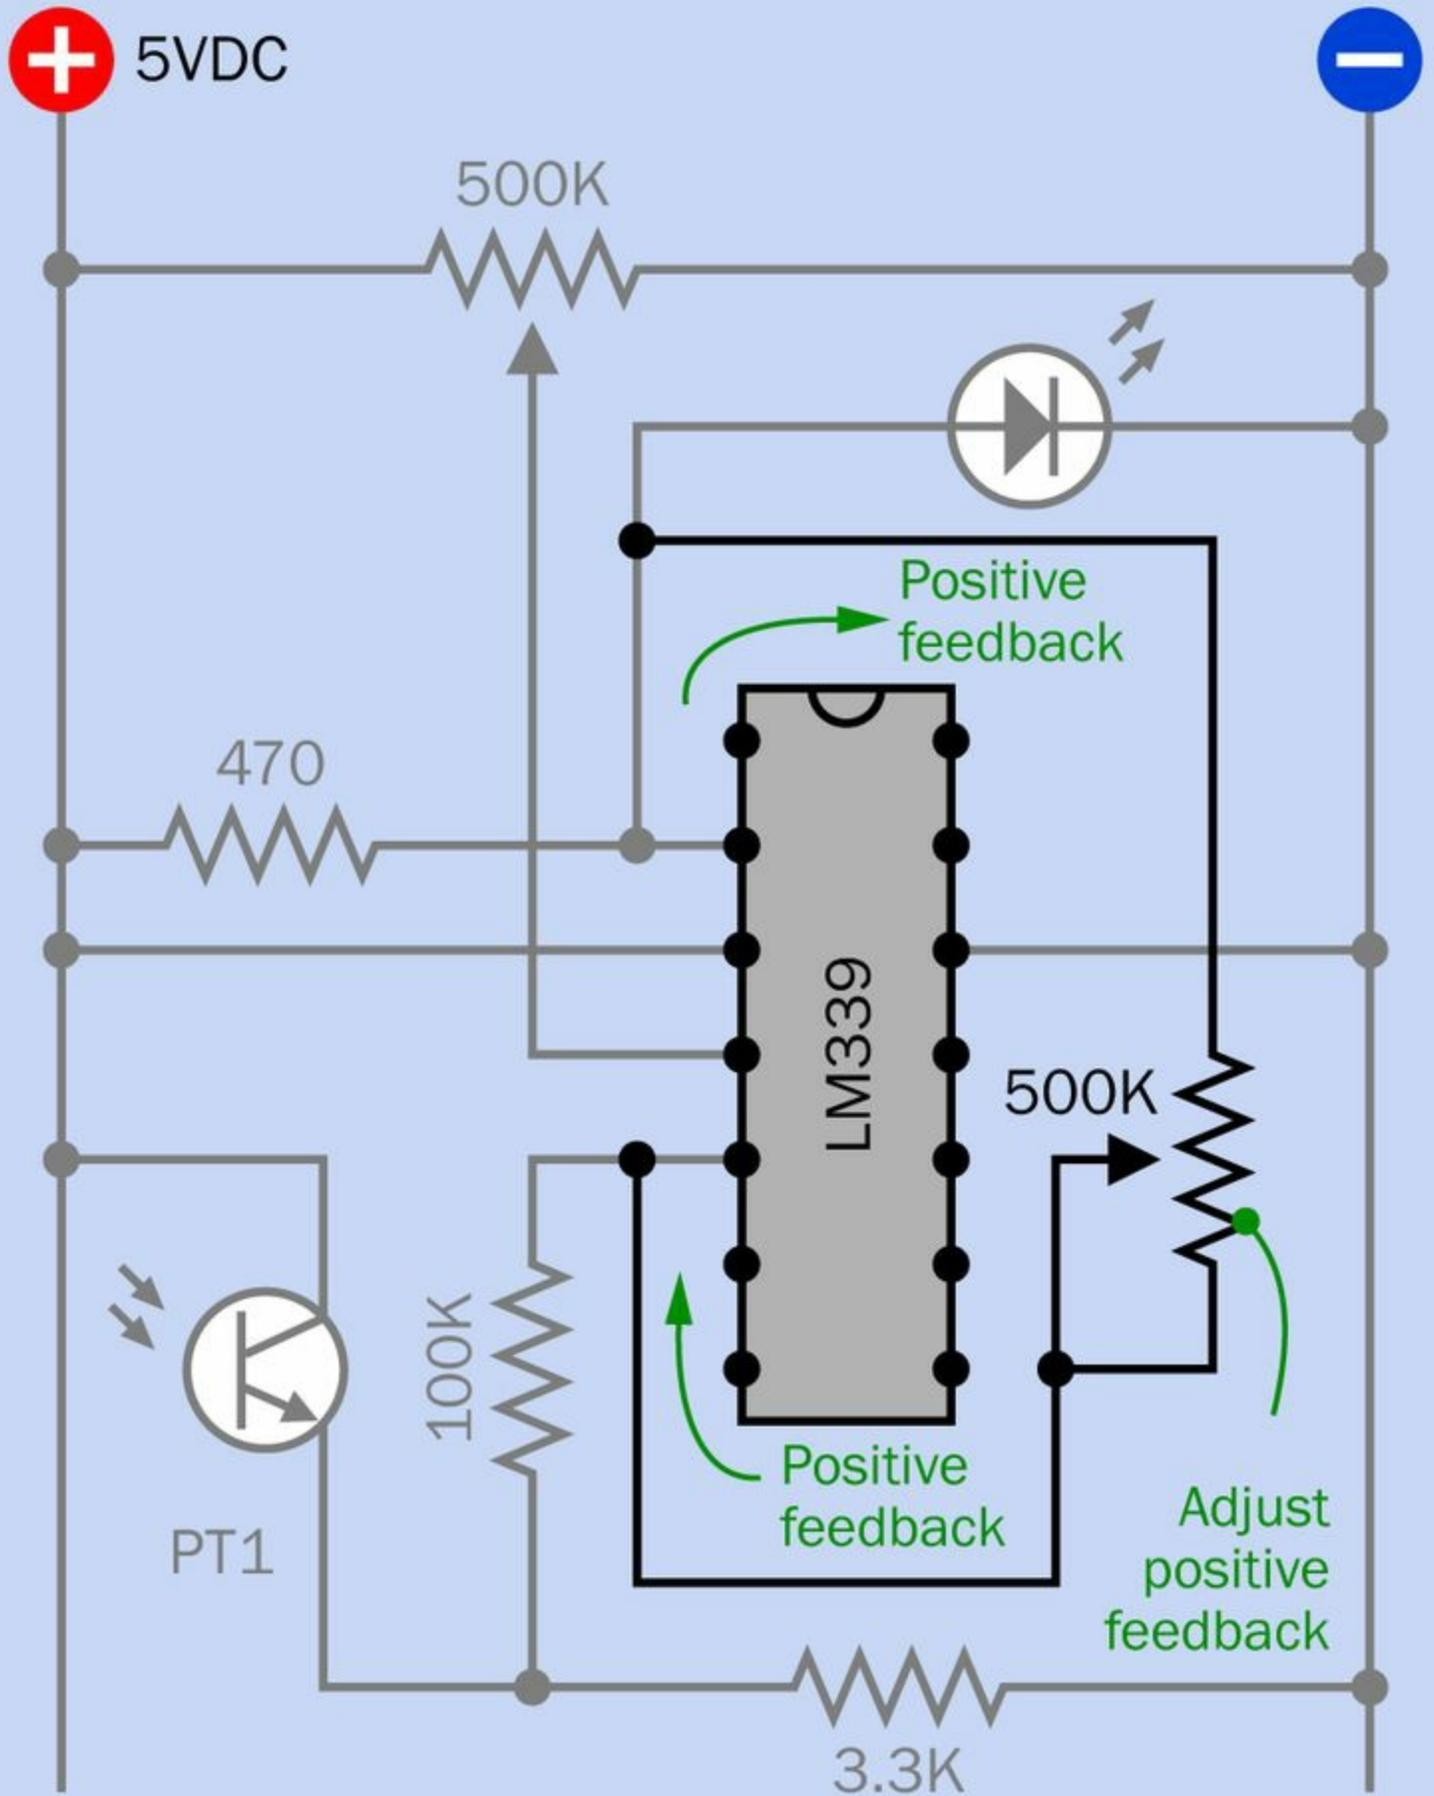
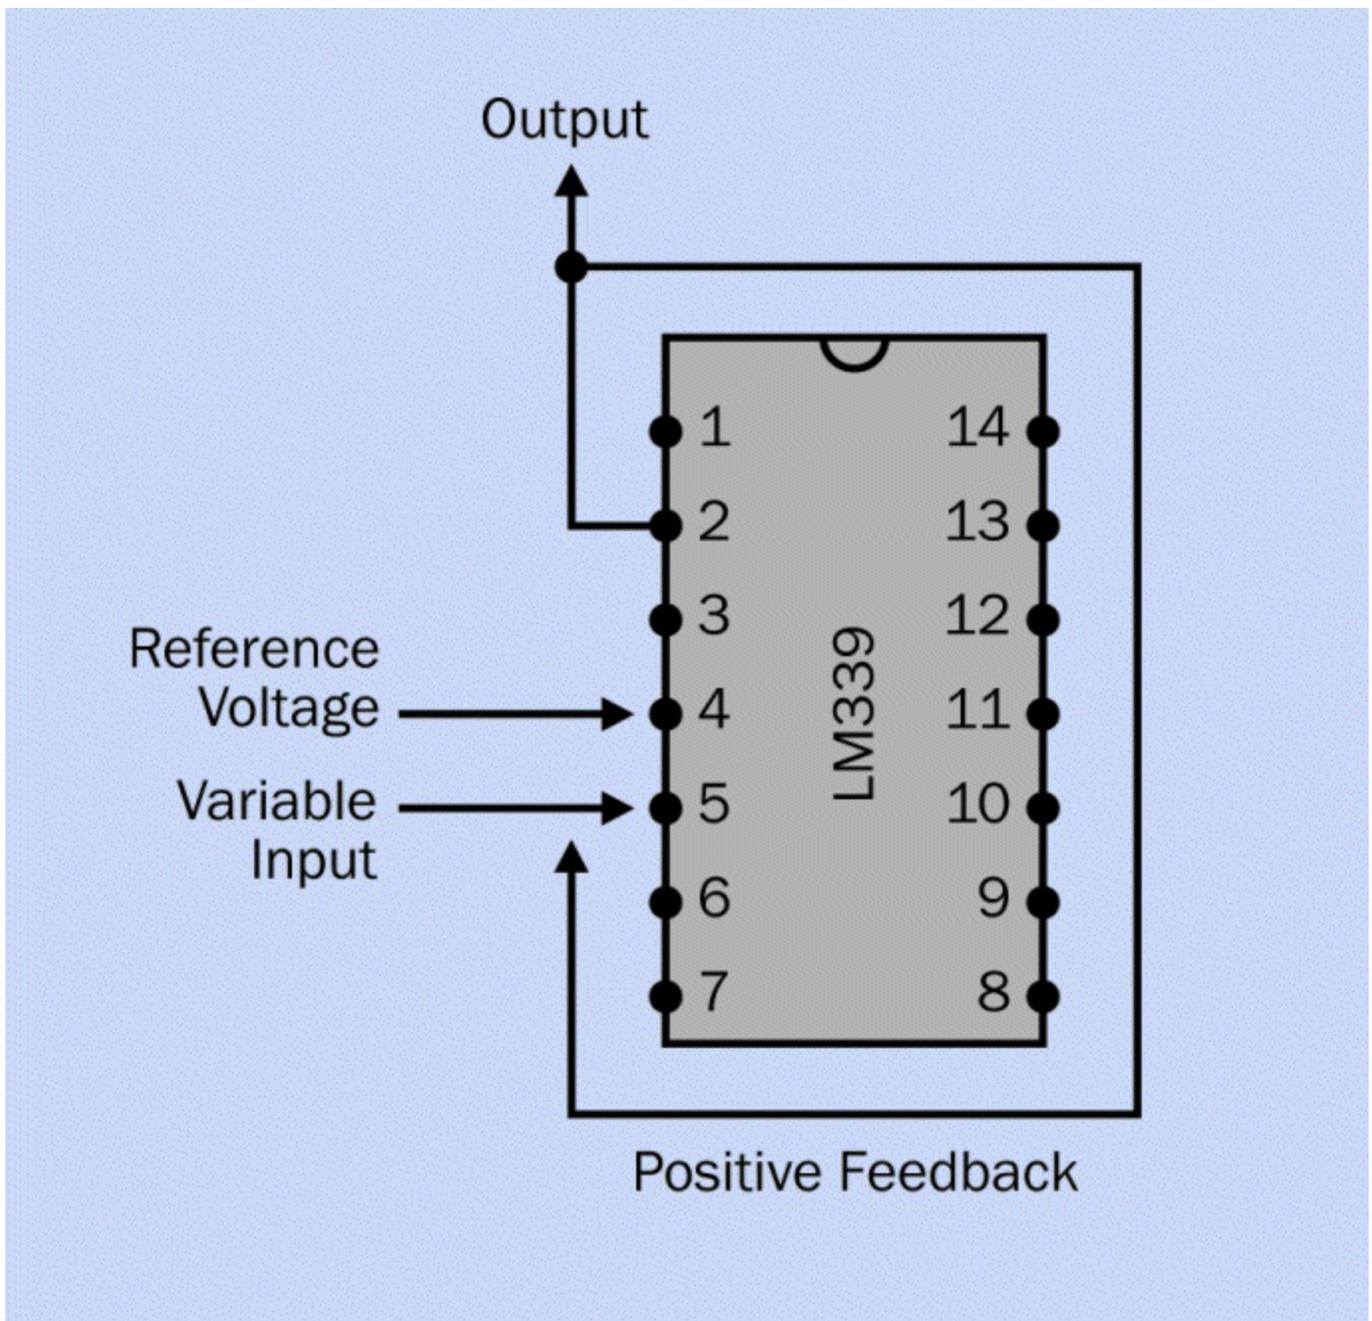
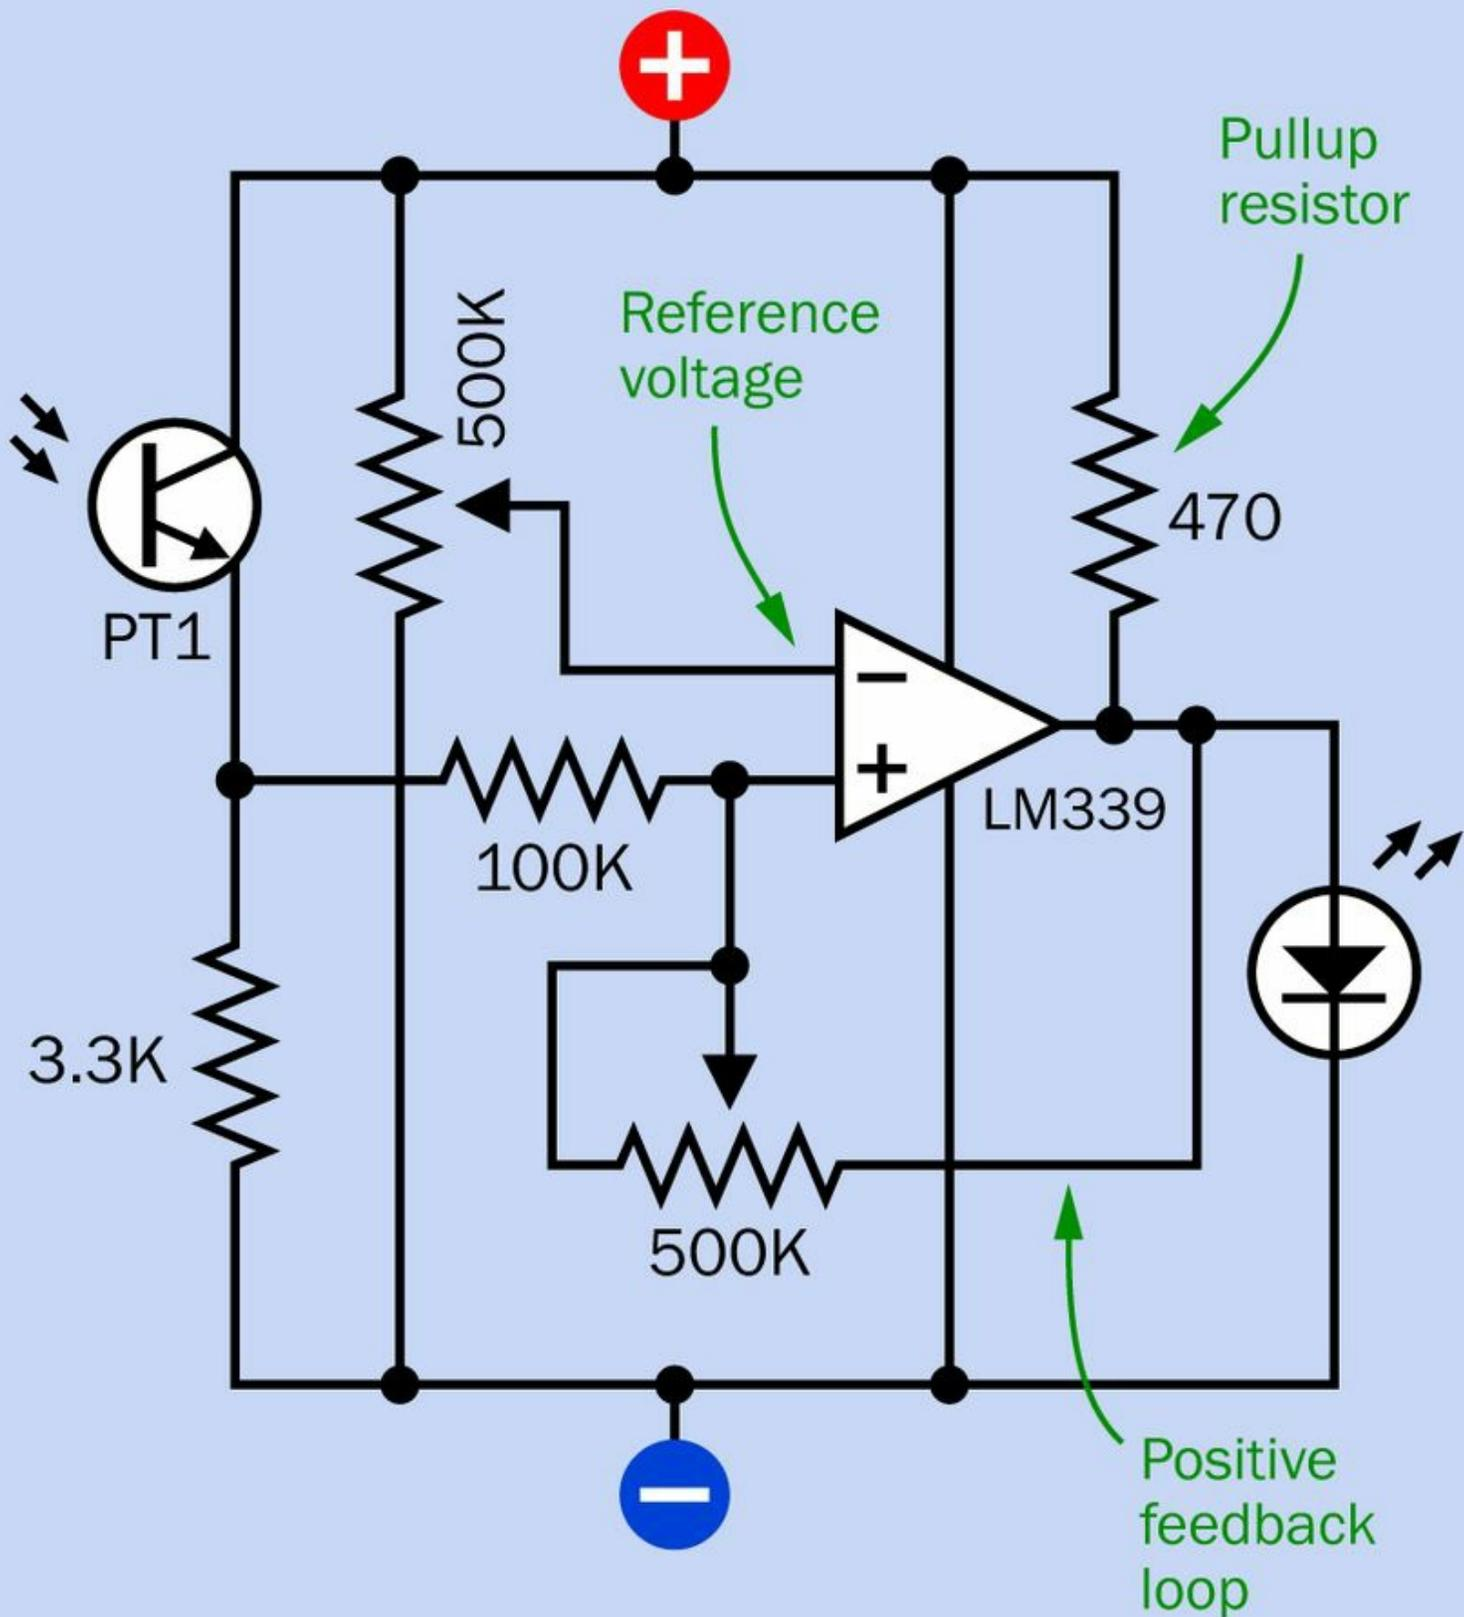

Figure 6-3. The basic comparator circuit has been modified to clean up its output, by the addition of positive feedback.
Figure 6-5. The basic concept of positive feedback.
Figure 6-13. A more typical layout of components in a basic positive-feedback loop using a comparator.
Figure 6-3 shows the same circuit as before, but with an additional potentiometer on the right.
The basic idea of this circuit is shown in Figure 6-5. Notice that pin 2 of the comparator chip is connected back to pin 5. Pin 2 is the output (remember, it controls the LED). Pin 5 is the variable input — the phototransistor is connected with it through the 100K resistor. So the second potentiometer in Figure 6-3 is taking some of the voltage from the output and feeding it back to the input. This is the positive feedback.
- Most comparators should have their outputs connected to devices with high input impedances, such as logic chips. That kind of chip demands very little current, so you can use a relatively high-value pullup resistor, which is typically 5K. The 470Ω resistor in the schematic in **Figure 6-3** is relatively low because the comparator had to drive an LED.
The schematic that I showed you in Figure 6-3 was laid out so that it would be as easy as possible for you to transfer to a breadboard. But other people don't make it so easy for you to breadboard a circuit. They tend to put positive voltage at the top, negative ground at the bottom, input on the left, and output on the right. This convention is used because the circuit is easier to understand when you look at it for the first time.
Figure 6-13 is an example of a conventional schematic using a comparator. The components and connections are actually the same as in Figure 6-3.